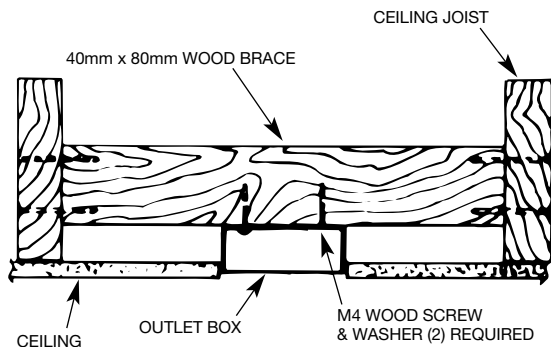

Fig. 3
- A. Secure a metallic outlet box 4" x 1 1/2" or 4" x 1/2" deep to 2 x 4 cross brace between two ceiling joists as shown in Figure 3. The outlet box must be recessed in the ceiling by 1/16" minimum. Secure the outlet box to the cross brace by drilling (2) pilot holes no larger than the minor diameter of the woodscrews (5/64") and use two #8 x 1 1/2" woodscrews and washers. Use the innermost holes for securing the box. Orient the box so the outermost holes are aligned with the 2 x 4 brace. The outermost holes will be used in Step 3B.